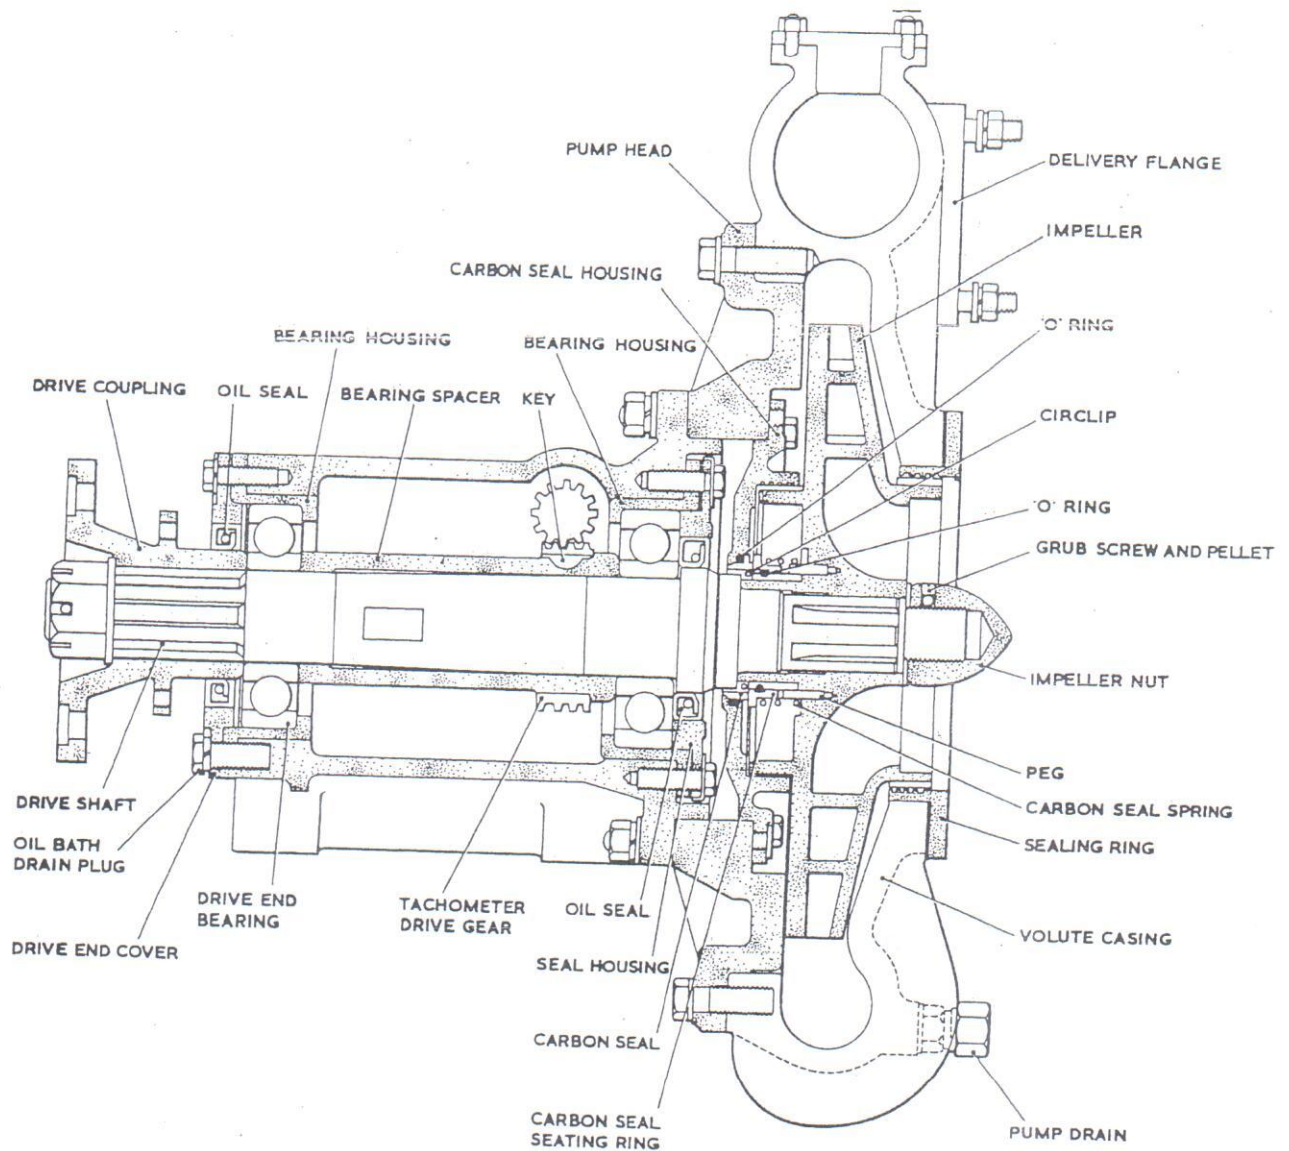

Fig.1 Water pump type UFP Mk.6
- 10 (1) Refer to Para 7 and remove the panels.
- (2) Refer to Para 9 and remove the pump from the vehicle.
- (3) Remove the plug (Fig 1) and drain the lubricating oil into a suitable receptacle.
- (4) Refer to Para 8 and dismantle the pump.
- (5) To change the oil seal at the volute end of the drive shaft, remove the four bolts and tab washers to release the oil seal housing.
- (6) To change the oil seal at the drive end, remove the split pin and castellated nut together with washer and withdraw the companion flange.
- (7) Remove the four bolts and shakeproof washers and carefully withdraw the drive end oil seal housing and bearing retainer.
- (8) Re-assembly is a reversal of the dismantling procedures, but new joints lightly coated with grease, should be fitted between the oil seal housings and pump head.